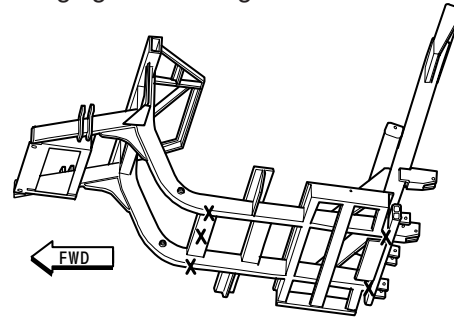

Figure 16 - Jacking Points
- Jack vehicle only from side of vehicle, **ON THE MAIN FRAME RAIL**, at point where the tub support and the main frame rail are welded (see fig. 16). Alternative locations would include the rear frame rail and the center of the front cross member.